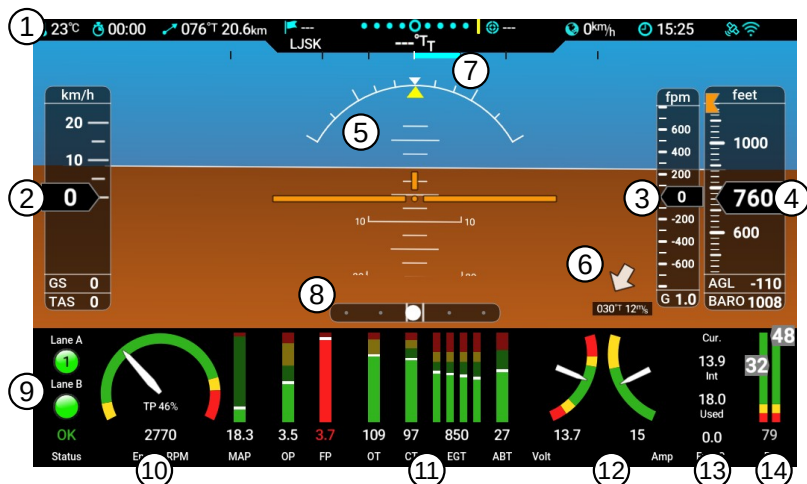

Figure 5: Illustration of the PFD/EMS screen with horizontal layout.
- ③ Vertical speed scale.
- ④ Altitude tape. A height above ground level (AGL) and current QNH value are shown at the bottom.
- ⑤ Attitude indication of pitch and roll. Roll scale has dash markings at 10, 20, 30 (long), 45, 60 (long) degrees. Figure 5 shows situation at 45 degree roll. Long pitch scale line has number at side, medium line refers to a 5 degree step and short line is 2.5 degree step.
- ⑥ Relative wind indication. Wind direction and speed are shown below¹.
- ⑦ Heading rate indication.
- ⑧ Slip indication.
- ⑨ Engine status information for Rotax iS and ULPower engines. Number in the status light tells which generator is in use (Rotax iS).
- ⑩ Engine power section, RPM arc with totalizer and manifold pressure. During flight, the totalizer is not shown. A touch on the RPM arc will show totalizer for a couple of seconds. Throttle position is also shown when available.